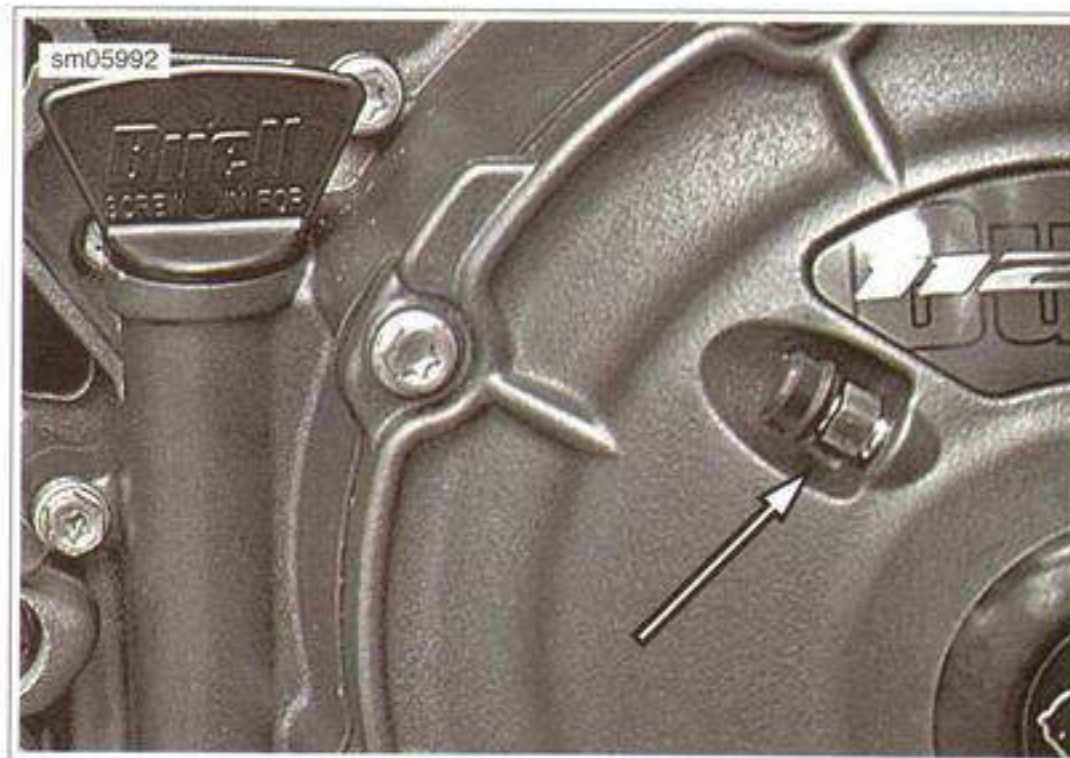

Figure 6-10. Clutch Fluid Bleeder Valve
- a. See Figure 6-10. Remove bleeder valve cap and install a length of plastic tubing over valve. Place the free end in a suitable container.